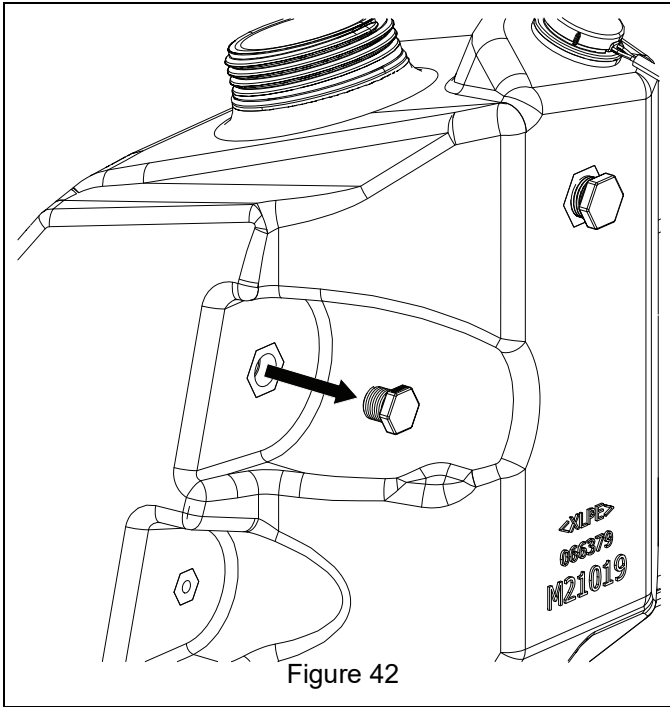

Figure 42
66. Remove and discard temporary plug from top front of rear brine tank. See Figure 42.